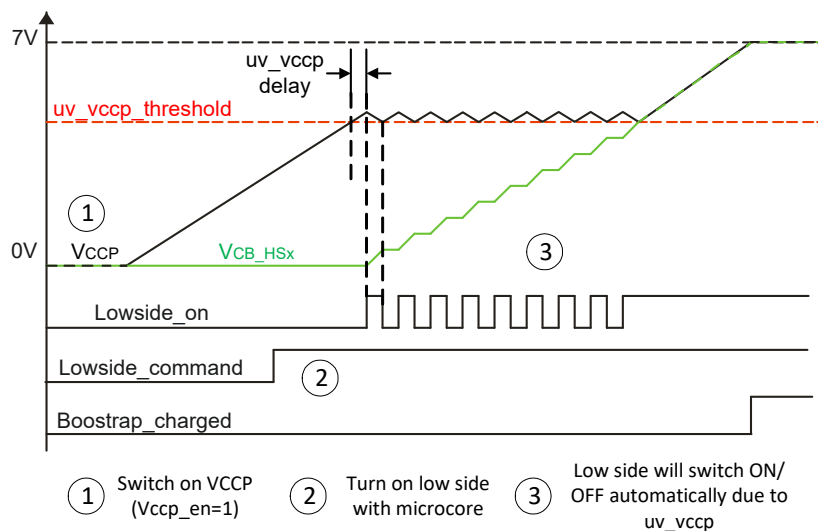

Figure 23. Power-up: V_{CCP} and bootstrap capacitors - before V_{CCP} fully charged
2. Switch on the LS MOSFET(s) as soon as possible after the V_{CCP} voltage is above the V_{CCP_UV} threshold. This causes the V_{CCP} voltage to cross the V_{CCP_UV} threshold again and thereby the LS MOSFET(s) and the bootstrap diode are switched off again. The V_{CCP} voltage recovers from undervoltage and after the delay min. of 16 μs, the LS MOSFET(s) and the bootstrap diode are switch on again. This pulsed charging of the bootstrap capacitors with a frequency of below 50 kHz continues until the voltage of the bootstrap capacitors is above the V_{CCP_UV} threshold. Figure 23 shows this strategy.